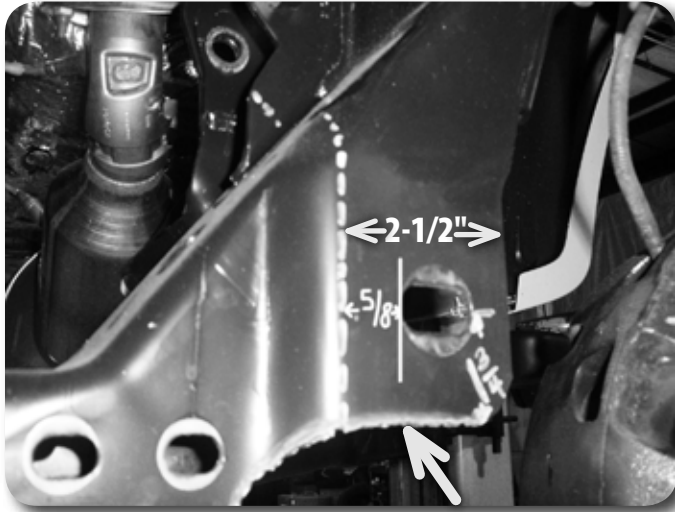

Figure 18
28. The driver's side rear lower control arm frame pocket must be modified to provide clearance for the differential in its relocated position. On the front side measure from the inside edge of the factory control arm slot  $\frac{5}{8}$ " **Figure 18**. Make a vertical cut line at the mark. Measure down  $1\frac{3}{4}$ " from the center of the slot, make a horizontal cut line.